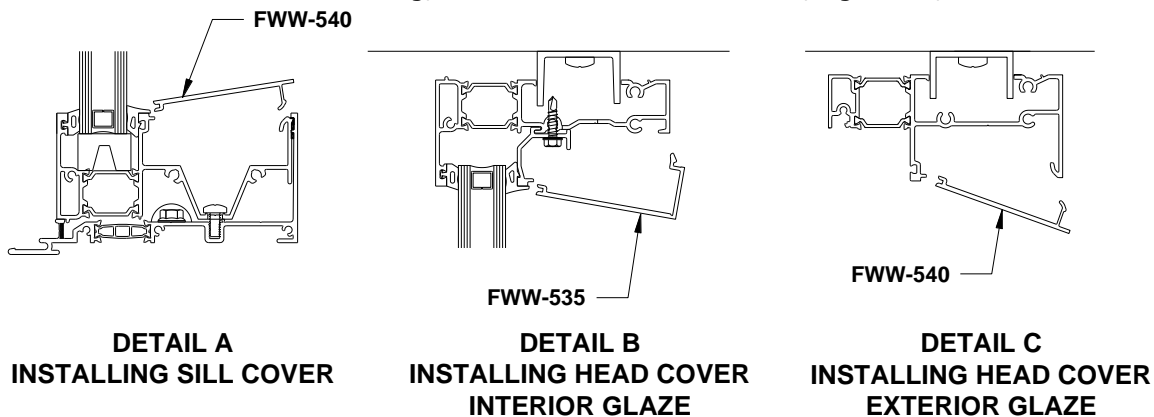

Figure 78: Cover Installation
- 19.20.4 If Interior Glazing, install **FWW-535** Head Cover, *Figure 78, Detail B*.
- 19.20.5 If Exterior Glazing, install **FWW-540** Head Cover, *Figure 78, Detail C*.
20.19.1 It is OPTIONAL to install the Sill Cover before glazing. To install the Sill Cover, snap **FWW-540** Sill Cover into place at Sill, *Figure 78, Detail A*.
20.19.3 Snap **FWW-540** Sill Cover into place at Sill, *Figure 78, Detail A*.
20.19.4 If Interior Glazing, install **FWW-535** Head Cover, *Figure 78, Detail B*.
20.19.5 If Exterior Glazing, install **FWW-540** Head Cover, *Figure 78, Detail C*.